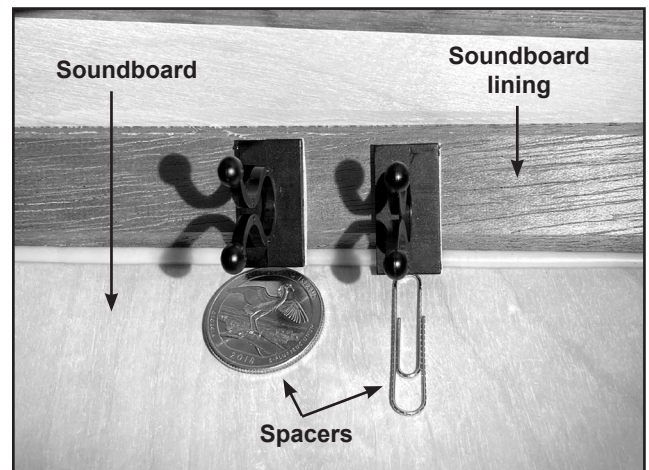

Figure 6 – Example spacers
3. Use the spacer to position the bottom edge of the clip up off the soundboard (*see figure 6*).